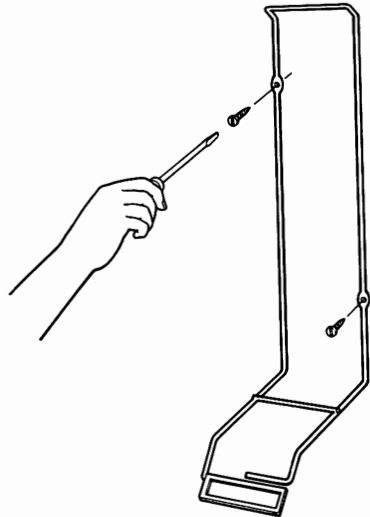

Figure 2-3. Screw the frame onto the wall.
3. Mount the frame on the wall, using the screws that came with the kit (Fig. 2-3). If there is no stud behind the wall where you are mounting the frame, insert the two wall anchors into the wall before you insert the screws.